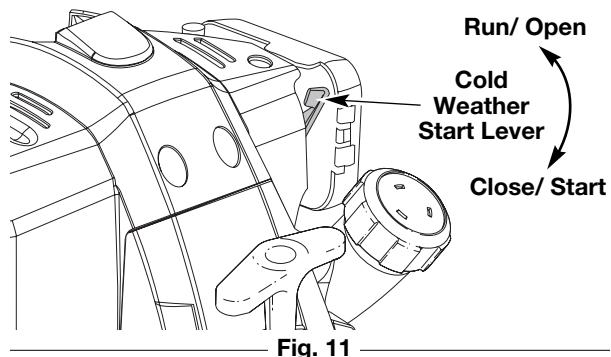

Fig. 11
- **IF COLD...** For cold weather conditions (below 40°F), flip the Cold Weather Start Lever (Fig. 11) down to the start/closed position and continue to step 3. DO NOT flip this lever down if the temperature is above 40°F.